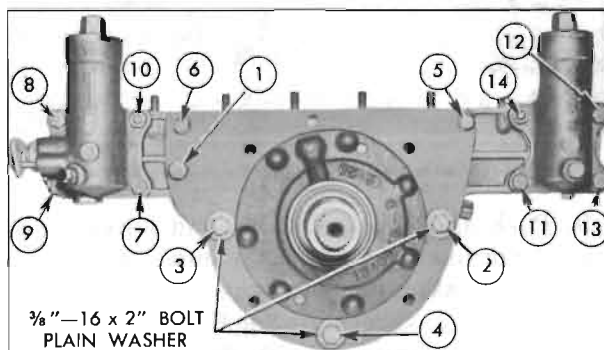

Figure 5-105—Reaction Shaft Flange and Accumulator Bolt Tightening Sequence
5. Install 3 special bolts ( $\frac{3}{8}$ "-16x2") with plain washers in positions marked 2, 3, 4 in Figure 5-105. These bolts are for assembly purposes only. Install regular pump cover bolts and lockwashers at positions marked 1, 5, 6. Coat threads of bolts No. 5 and 6 with Permatex No. 3.
14. Referring to Figure 5-105, tighten all bolts and nuts (1 through 14) to 5 ft. lbs. torque in the numerical sequence shown. Following the same sequence again, tighten bolts 1 through 4 to 35-40 ft. lbs. and the remaining bolts and nuts to 20-25 ft. lbs.